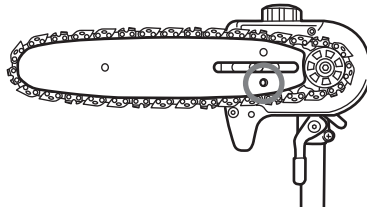

Fig. 35g
9. Make sure the tension pin (D11) is inserted into the lower hole on the guide bar. (See Fig. 35g)